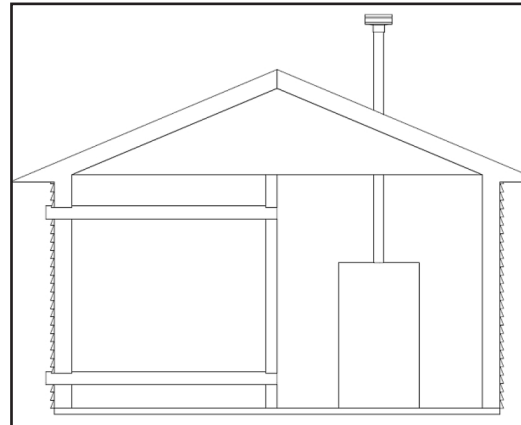

Figure 21 - Combustion Air through Ductwork
2. If combustion and ventilation air is taken from the outdoors using a duct to deliver the air to the mechanical room, each of the two openings should be sized based on a minimum free area of one square inch per 2000 BTU/hr input. See Figure 21.